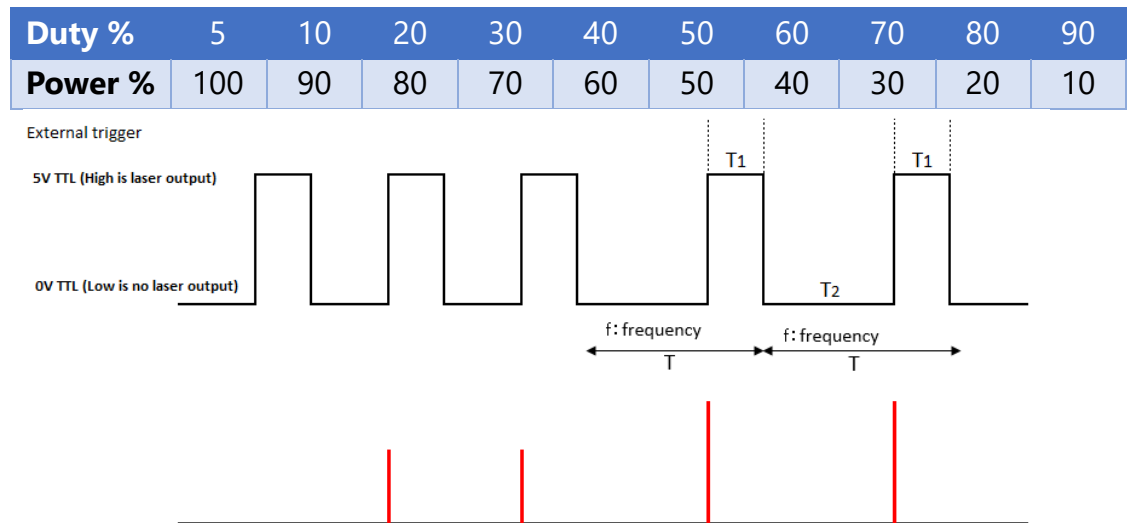

Figure 20: Example of the Dynamic Pulse Energy Controlled by Duty Control
- While in the Operator GUI please hit the Engineer Tab and then the password provided with your system when prompted. Once the Engineer GUI is opened locate the Crystal 2 Temperature Adjustment Section, see figure 20.